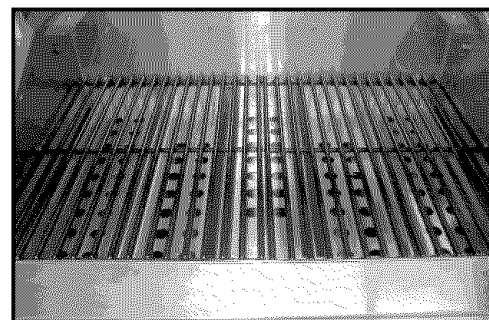

Fig. 13
2. Install cooking grates on the ledges provided on the grill to create your cooking surface. (See Fig. 13)